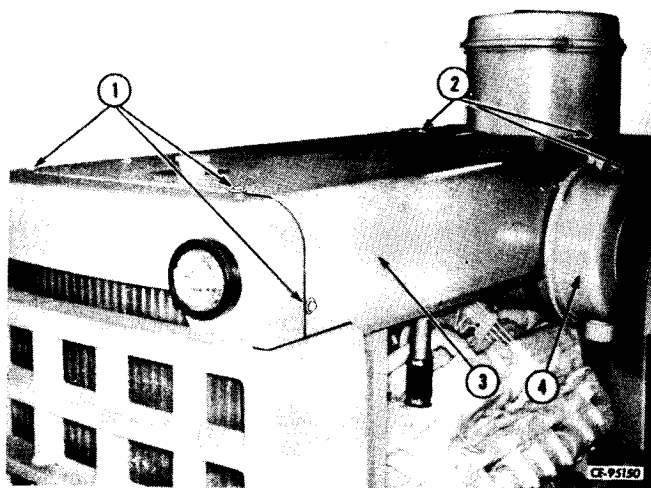

Figure 2-39
In order to remove the grille, cap screws (1, Fig. 2-39) are removed connecting the hood to the grille and cap screws (2) are loosened connecting hood to bulkhead.
Remove wood block used to support hood during grille removal. Install and tighten cap screws and nuts (1, Fig. 2-39). Tighten cap screws and nuts (2).